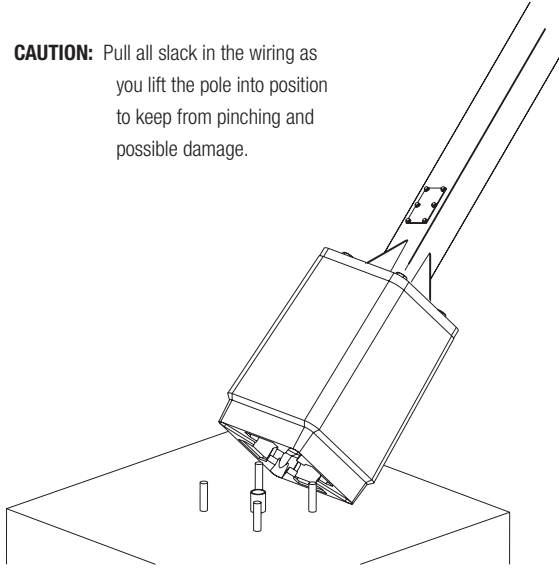

Figure 7
5. Place the pole on the pad with the holes on the Transformer Base aligned with the bolts of the anchor bolts or anchor jig and slowly lift the pole into the upright position (Figure 7).